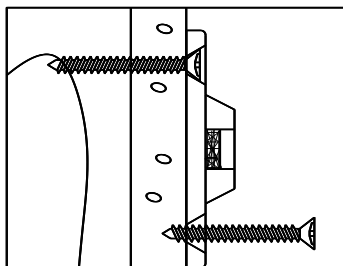
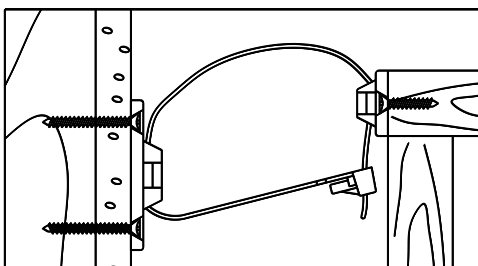

Figure 2
Figure 3
**3) MOUNTING THE WALL-SIDE BRACKET:** Position the wall-side bracket along the selected stud mark so that it will be adjacent the furniture-side bracket when the furniture item is moved to its final position. The wall-side bracket should be about ONE inch lower than the furniture-side bracket (See Figure 3). Use the TWO long screws to secure the wall-side bracket to the wall. Remember to position the wall-side bracket vertically so that both screws will engage the selected wall stud (See Figure 2).